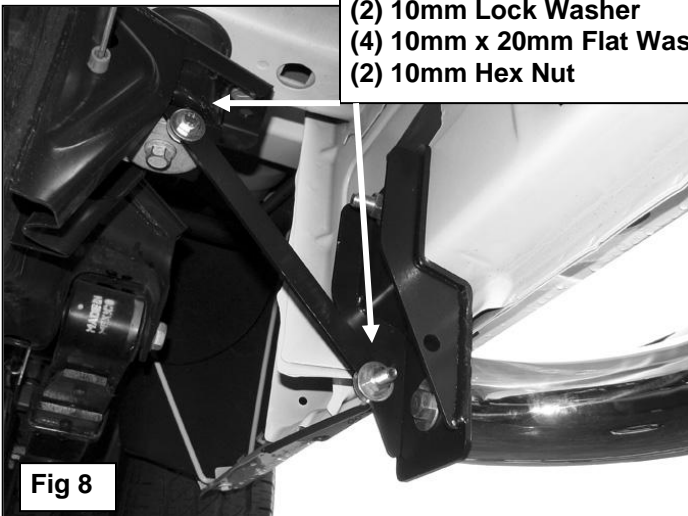

Fig 8
9. Remove the driver side rear factory body bolt and washer. Select the driver side Rear Support Mounting Bracket. Insert the factory body bolt and washer through the Support Mounting Bracket and up into its original position. Next, select (1) Rear Support Strap and bolt it to the mounting tab on the Rear Support Mounting Bracket and to the Rear Mounting Bracket with (2) 10mm x 35mm Hex Bolts, (4) 10mm x 20mm OD Small Flat Washers, (2) 10mm Lock Washers and (2) 10mm Hex Nuts, **(Figure 8)**. Snug but do not tighten hardware at this time.
10. Select the driver Sidebar and with assistance, carefully fasten it to the front and rear Mounting Brackets with the included (2) 1/2" x 2" Hex Head Bolts, (2) 1/2" Lock Washers, and (2) 1/2" Flat Washers, **(Figure 8 & 9)**. Do not tighten at this time.